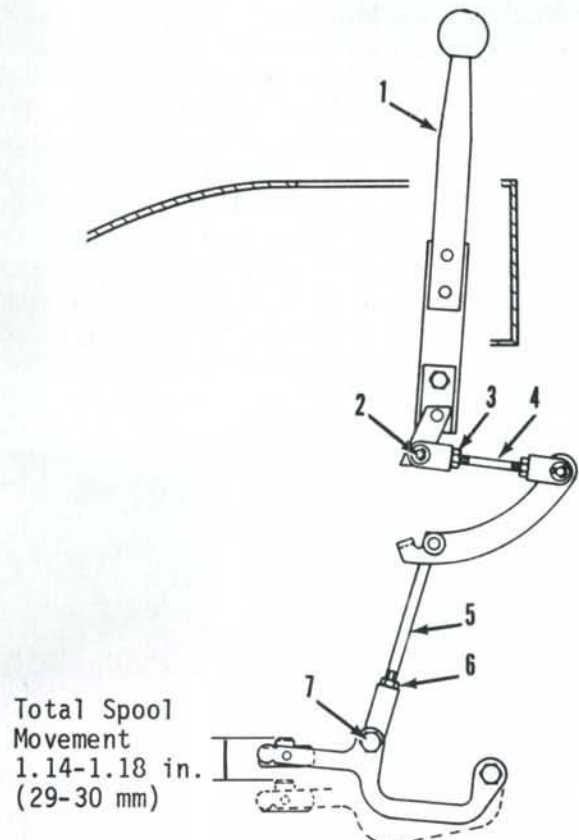

Fig. 147—Pto control linkage used on models equipped with cab.
To adjust the pto linkage on models equipped with cab, refer to Fig. 147 and move control lever (1) forward and rearward to check total control spool movement. Total spool movement should be 1.14-1.18 inches (29-30 mm). If not, remove pin (7), loosen locknut (6) and adjust clevis on link (5) to obtain correct total spool movement. Install pin and tighten locknut. Check to see that control lever has a small amount of clearance at each end of slot in console. If necessary, remove pin (2), loosen locknut (3) and adjust clevis on link (4) until clearance is obtained. Install pin and tighten locknut.